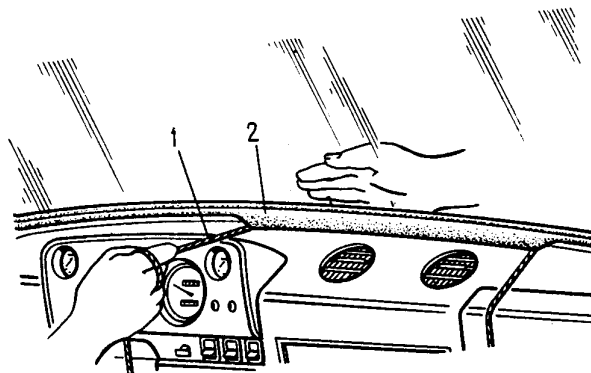

Fig. 8-24. Installing Windshield:
- using a screwdriver, insert installation cord 1 (Fig. 8-24) into the recess by which sealing strip 2 is slipped on the body opening flange;